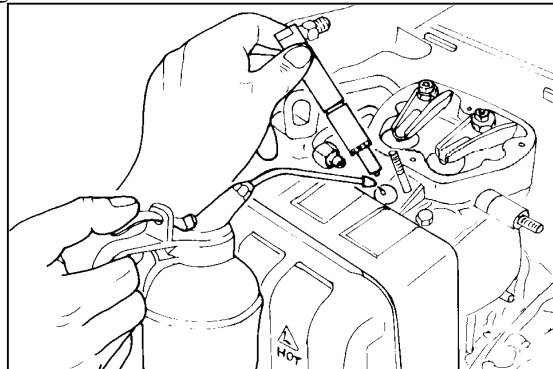

Figure 32
5. Reassemble in reverse order. See figure 32.